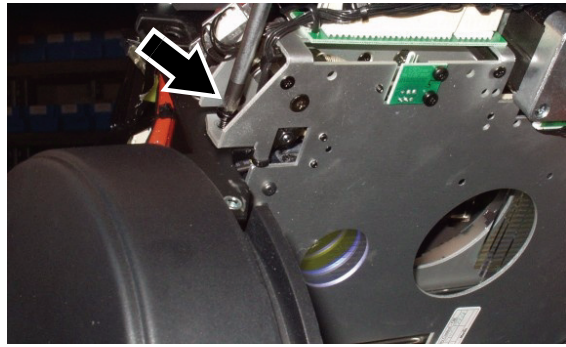

Figure 43
47. See Figure 43. Remove the four screws (PZ2, P/N 08070404) that hold the CMY module, disconnect the module's multi-connectors marked 16, 17, 18, 19, 20, 34, 41 and T and lift the module out of the head. Keep the screws for re-use during re-installation. This module is no longer required, as a new CMY module is supplied in the Upgrade Kit.